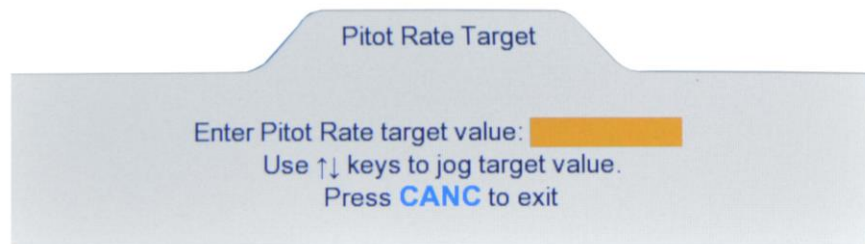
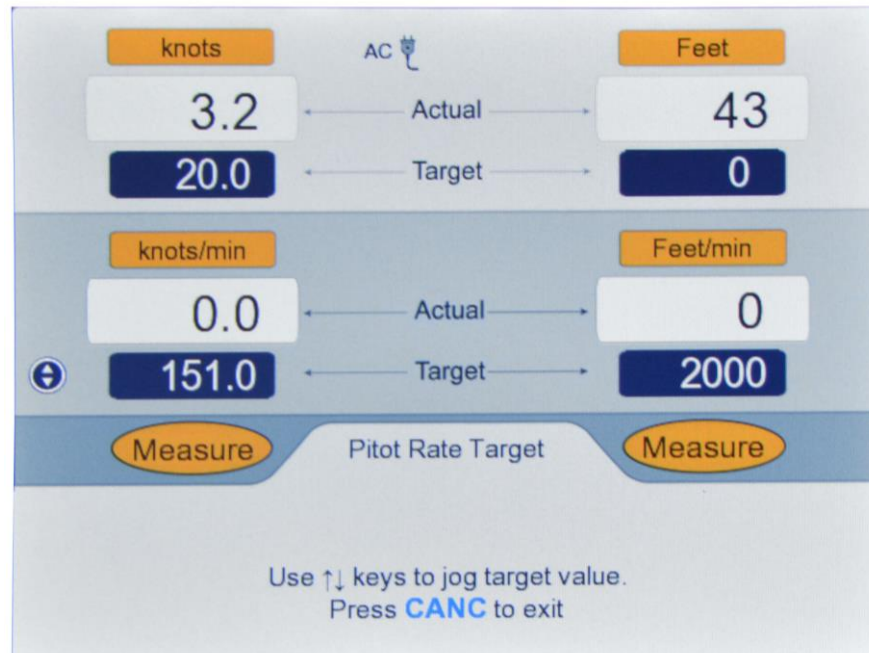

Figure 3.11 : Pitot Rate Target value
Figure 3.12 : Jog the Pitot Rate Target value
The Pitot Rate Target value can be changed only if the key# symbol (3) is displayed to the left of the Pitot Rate Target value field. Press key '3' on the keypad and the Lower section of the display will appear as shown in Figure 3.11 below.
If the Rate Target value needs to be changed in small increments, instead of entering a value, the arrow keys may be used to Jog the Rate Target value up or down. If the current Pitot Rate Target value is 150.0 knots, and the Lower screen appears as in Figure 3.11 above, pressing the **Up-Arrow** key will make the screen appear as shown in Figure 3.12 below.